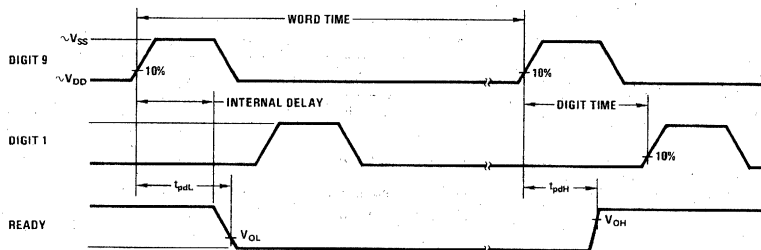

FIGURE 2. Output Timing
**ac electrical characteristics** (Figure 2)